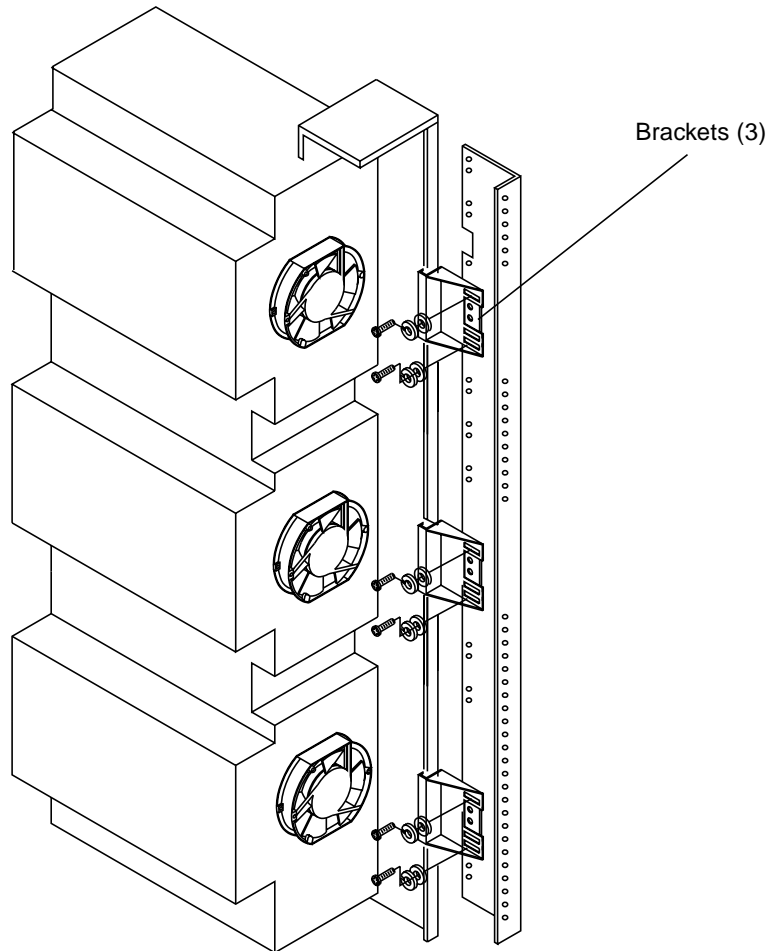

FIGURE 2-3 HDSA Shipping Brackets
1. Locate the HDSA shipping brackets from the side assembly as shown in FIGURE 2-3. Using a Philips screwdriver, remove the screws holding the brackets. Remove all washers.